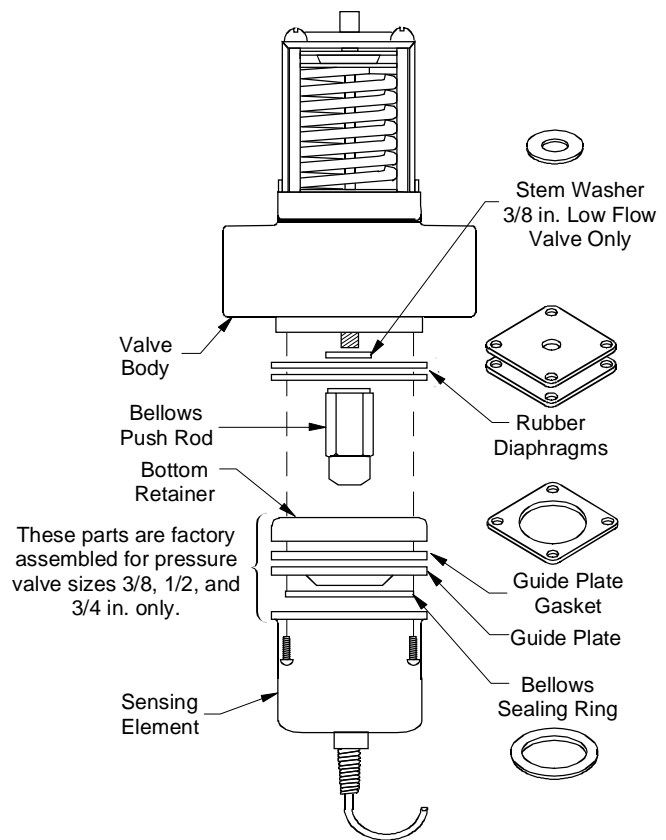

Figure 9: Guide Plate Gasket and Bellows Sealing Ring Identification
7. Remove the sensing element, bellows push rod, and diaphragms. See Figure 9.
10. On 1 in. and larger pressure valves and all temperature valves, replace the guide plate gasket and bellows sealing ring (Figure 9).